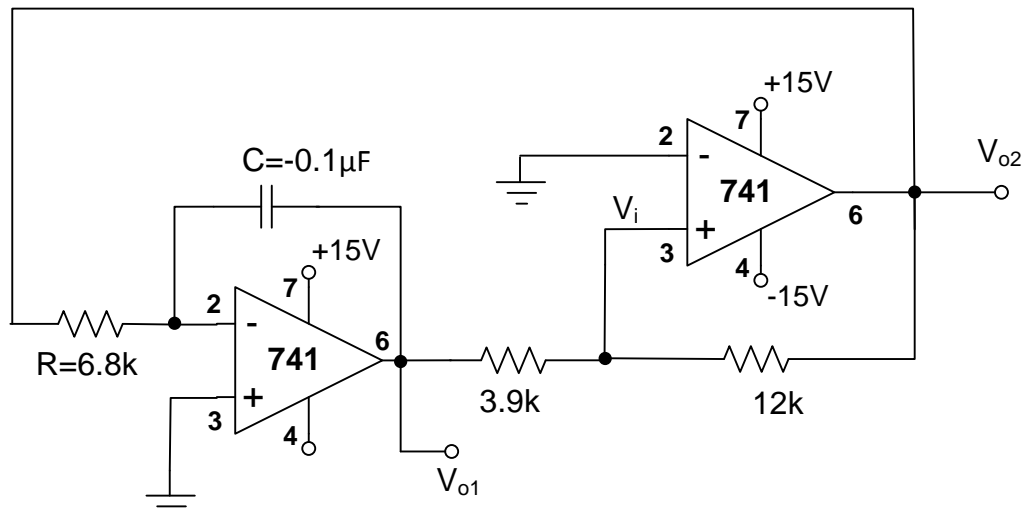

Figure 6: Triangular wave generator (Note that polarity of the op amp inputs)
Consider the circuit of Figure 6. Observing that it consists of an inverting integrator followed by a sharp comparator (with output of 14V or -14V) in a feedback loop. Answer the following:
6. Show for the values given in Figure 6 that the value of the period $T = (1.3)RC$.
Your lab instructor will assign you to redesign the circuit of Figure 6 for a given frequency of oscillation.